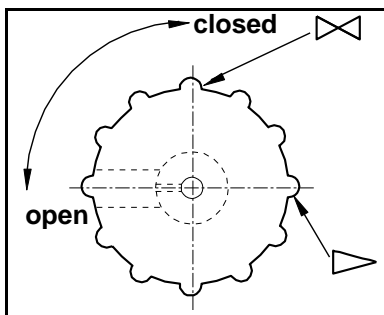

Fig. 20: Gas ballast operating knob
**i** If the gas ballast valve is open the maximum achievable vacuum level is reduced. The gas ballast is adjusted with the button (see fig. 20).